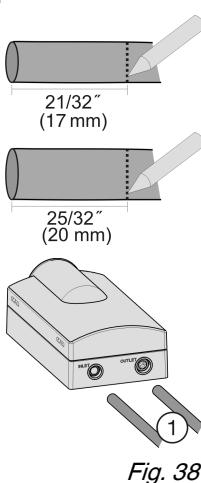

Fig. 38
- Insert the hoses *Fig. 38 (1)* into the water filter module as far as they will go (i.e. to the mark you made) past the point of resistance.